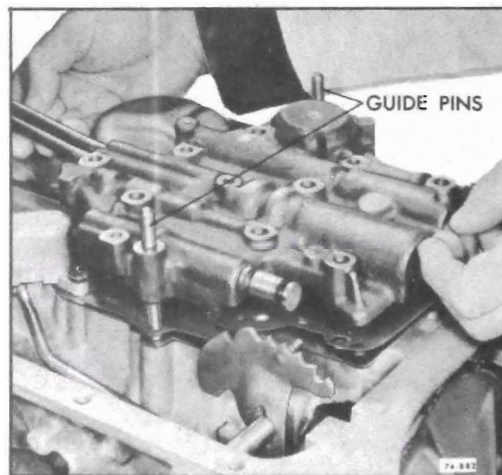

Figure 76-783
4. Install control valve assembly and governor pipes. See Figure 76-783.